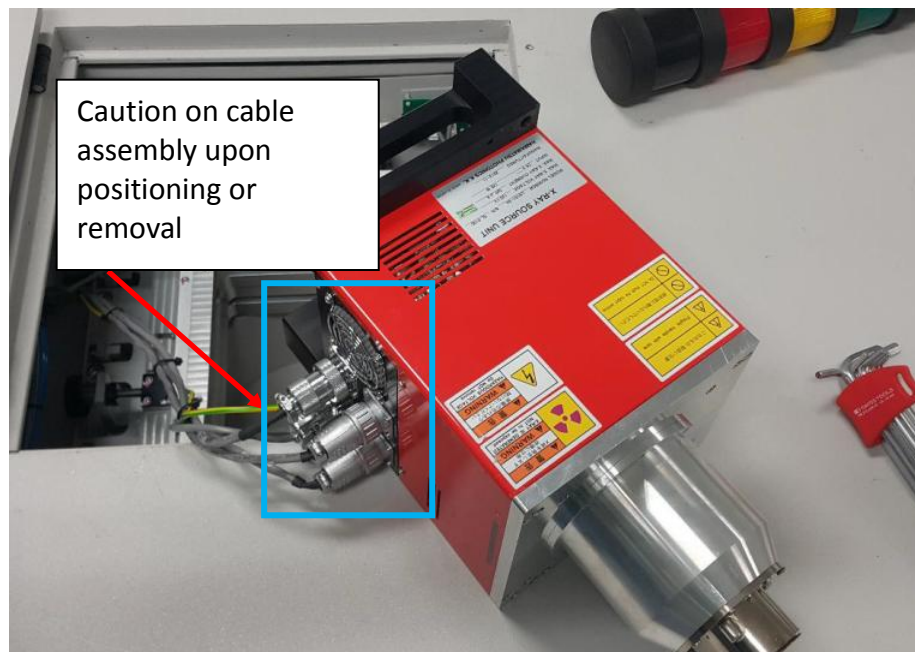

Figure 3 X-ray top positioning
- Lift the tube and place it at the top of the machine as shown in Figure 3.